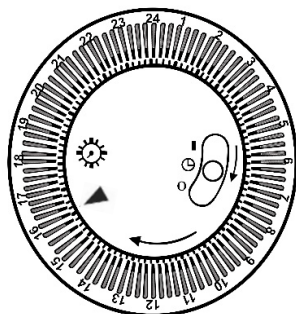

Fig. 2
2. Fit the wheel assemblies onto the radiator by placing the U-Shaped bolts between the outermost fins on each side of the radiator (Fig. 2 -3).
(Fig 2).